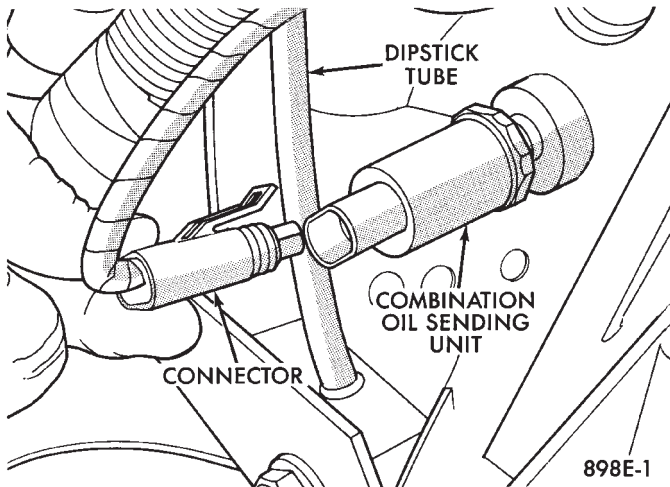

Fig. 4 Combination Oil Sending Unit
- If there is no continuity, check the low oil pressure sending unit switch (Fig. 4 and 5).